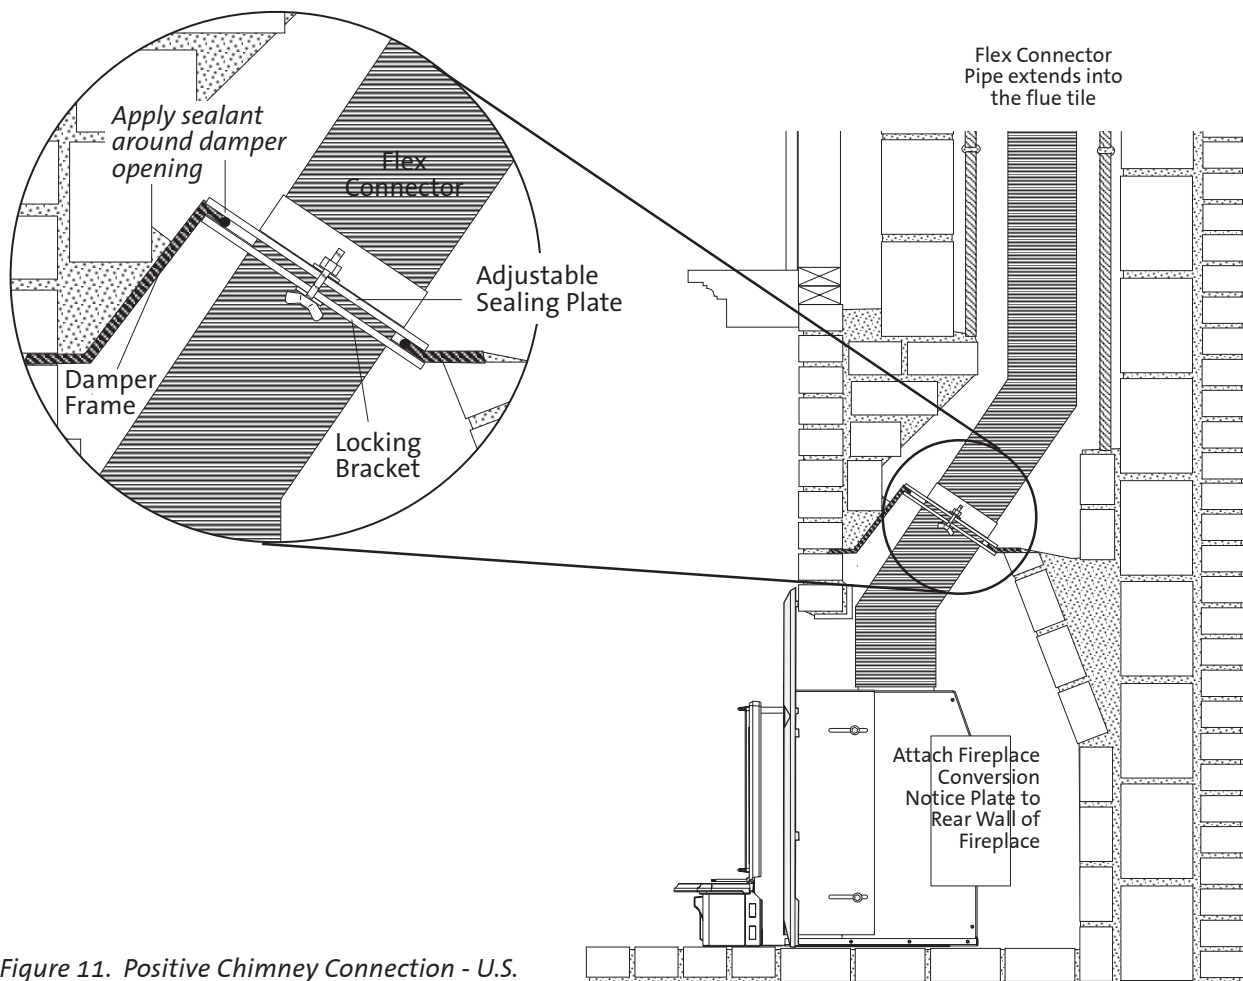

Figure 11. Positive Chimney Connection - U.S.
**In the U.S.:** See fig. 11. The insert is connected to a listed stainless steel flexible connector that extends beyond the chimney flue tile liner. Alternatively, 22 ga. blue steel or greater may be used. A sealed block-off plate must be installed at the damper area of the existing fireplace.